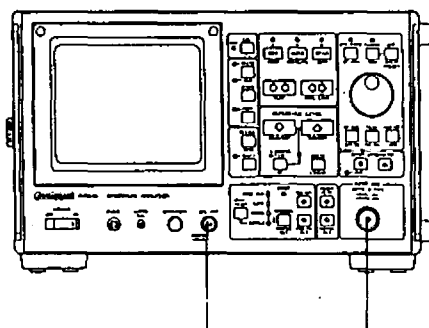

Figure 11-7 Residual FM Test Setup
② Connect the spectrum analyzer CAL OUT connector and the INPUT connector with the supplied cable as shown in Figure 11-7.